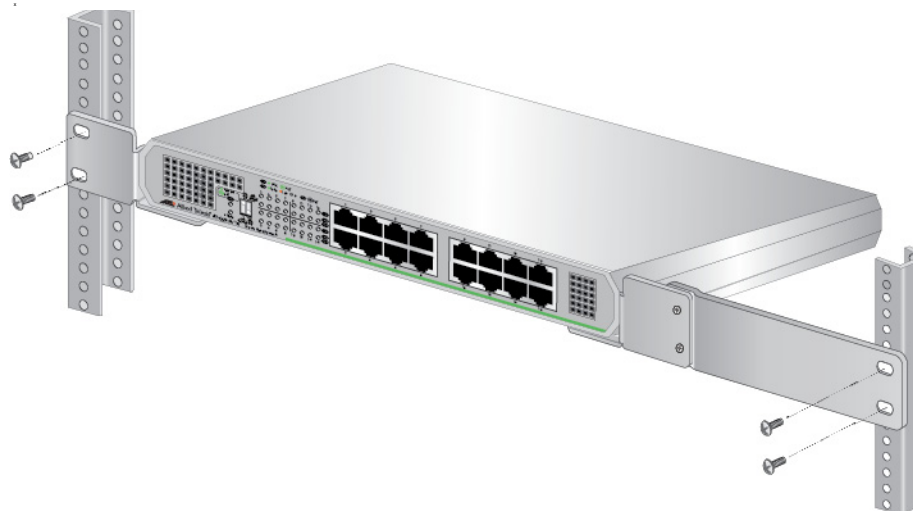

Figure 26. Attaching the Switch to an Equipment Rack
7. Mount the switch in a standard 19-inch equipment rack with four equipment rack screws as shown in Figure 26 on page 46.